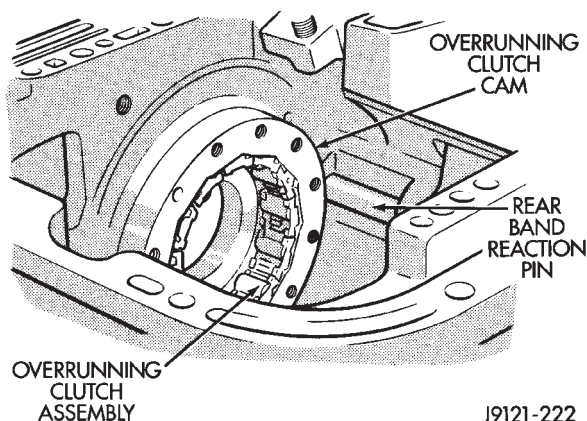

Fig. 150 Overrunning Clutch Assembly Removal
(42) Remove overrunning clutch cam and roller clutch assembly as a unit (Fig. 150). Turn cam back and forth and tilt it inward to remove it from case.